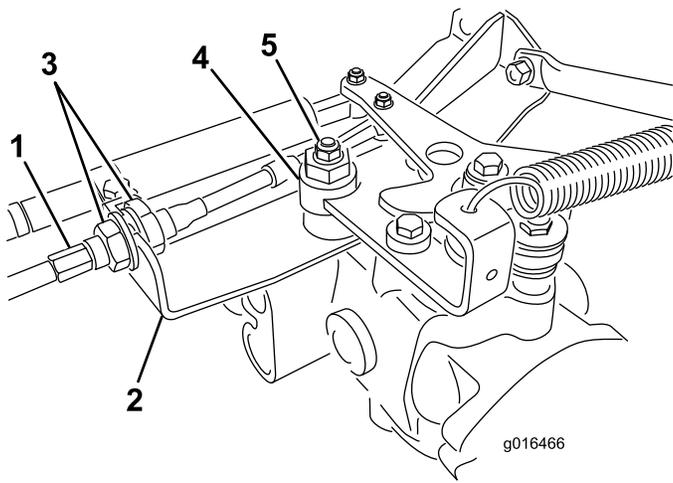

Figure 43
- A. Loosen both jam nuts securing the traction-control cable to the bulkhead on the hydrostat (Figure 43). Ensure that the jam nuts are loosened equally and sufficiently to allow adjustment.
Note: Loosen the nut securing the eccentric to the top of the hydrostat (Figure 43).
- E. When the wheel stops rotating, tighten the nut locking the eccentric and the adjustment (Figure 43).
- G. From each side of the bulkhead, tighten the locknuts evenly, securing the traction cable to the bulkhead (Figure 43). Do not twist the cable.